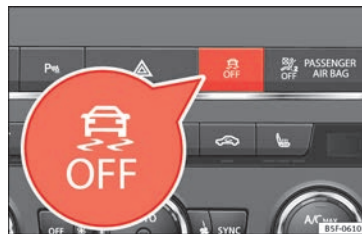

Fig. 197 Centre console: Button for switching on/off the ESC and ASR
- Press the  button » Fig. 197 for approximately 1 second to switch to ESC Sport mode.
- Press the button  » Fig. 197 for approximately 3 seconds to switch off the Electronic Stability programme (ESC), including the ASR function. The  control lamp lights up and the **ESC OFF** message is displayed permanently on the instrument panel display.
- The ASR and ESC function are reconnected by pressing the button  » Fig. 197.